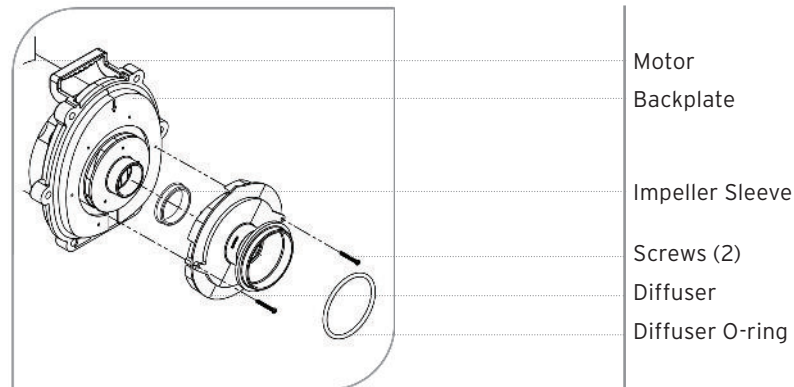

Figure 2. Remove the Diffuser
5. Using a No. 1 Phillips star screwdriver, remove the two (2) screws holding the diffuser. (The diffuser is the cover over the impeller). Then remove the diffuser. (See Figure 2.)